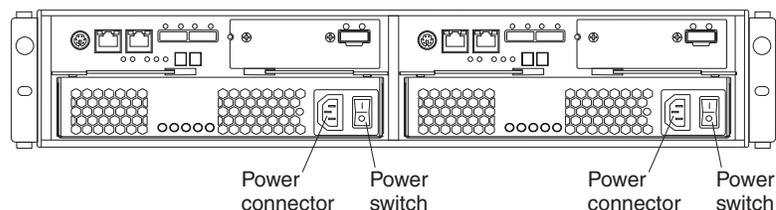

Figure 66. Power-supply switches and connectors for the DS3500
5. Turn on both ac power switches on the rear of the storage subsystem. Figure 66 shows the locations of the ac power switches.